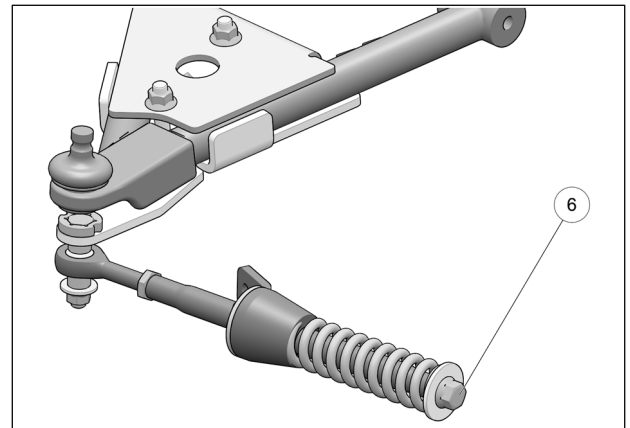

Fig. 15
- Verify that spring assembly bolt (**6**) is tightened to the recommended torque specification: 75 N•m [55 lb•ft]. Refer to Fig. 15